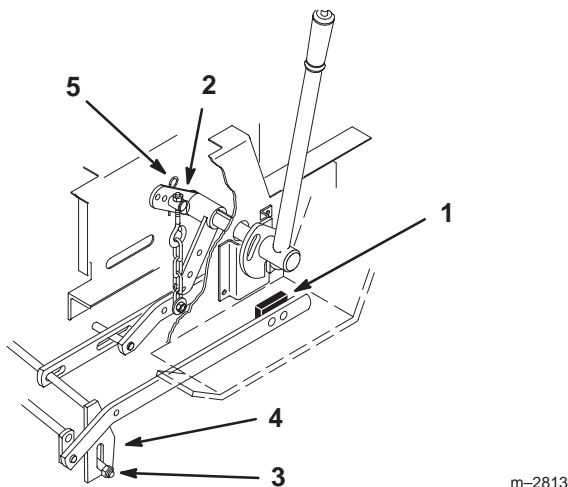

Figure 18
- If the bumpers do not contact footrests, adjust the lift chain by turning the nut on the eyebolt in the rear hole of tractor lift (Fig. 18). Turn the nut clockwise to raise the mower or counterclockwise to lower it.